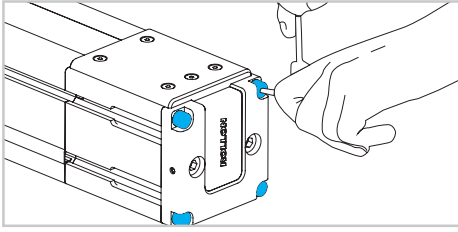

Fig. 10
- 10) Untighten the 4 screws on the idle head plate (see Fig.10).